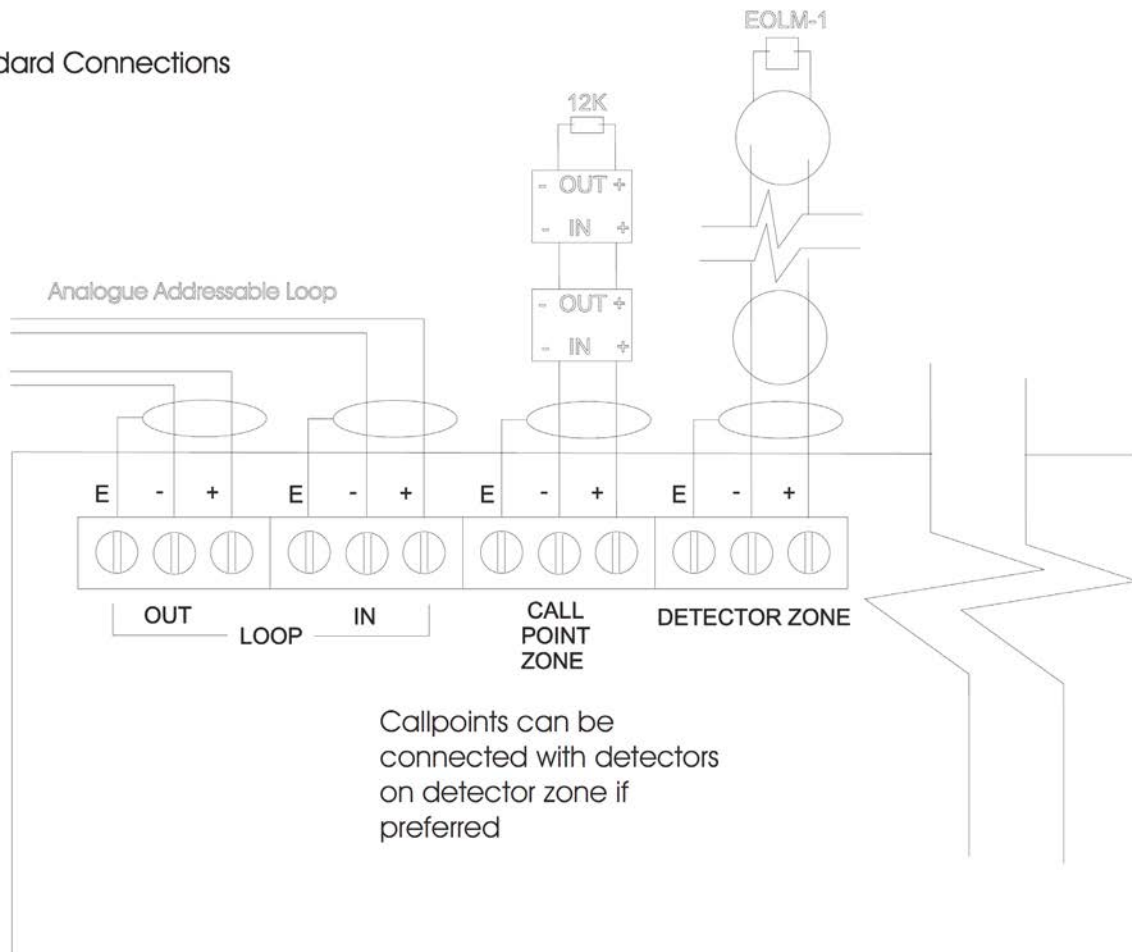

Figure 50. Zone Monitor Unit CZMU352
4. Connect the unit according to the diagram in Figure 50.